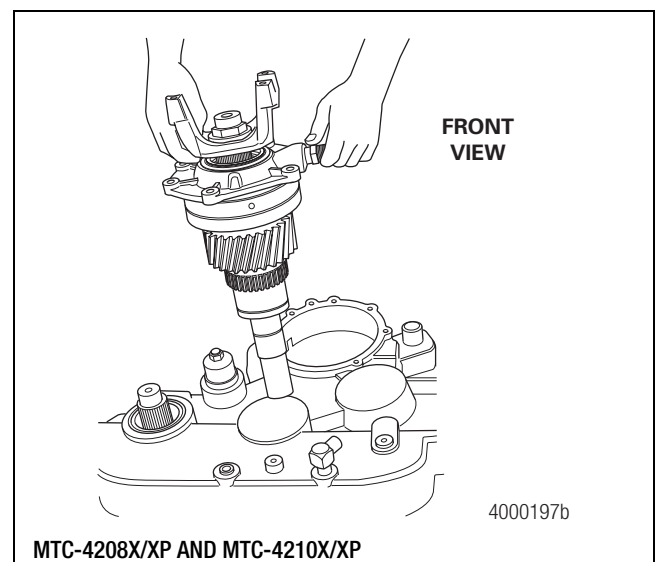

Figure 4.23
1. Support the front input shaft and bearing cage assembly at the workbench. Figure 4.23.